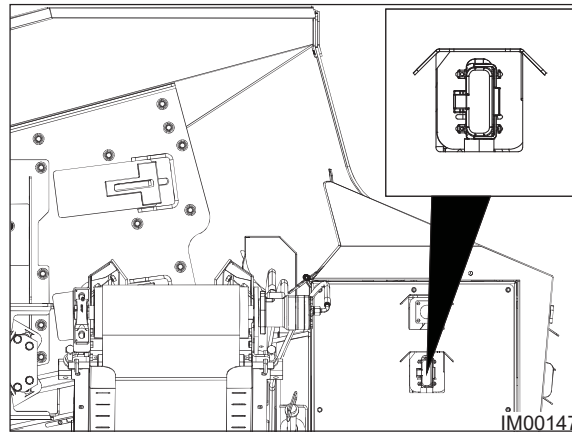

Fig. 6.4 - Umbilical Plug Socket
4. Connect the umbilical lead to the plug socket located on the side of the engine compartment (Fig: 6.4) and secure.